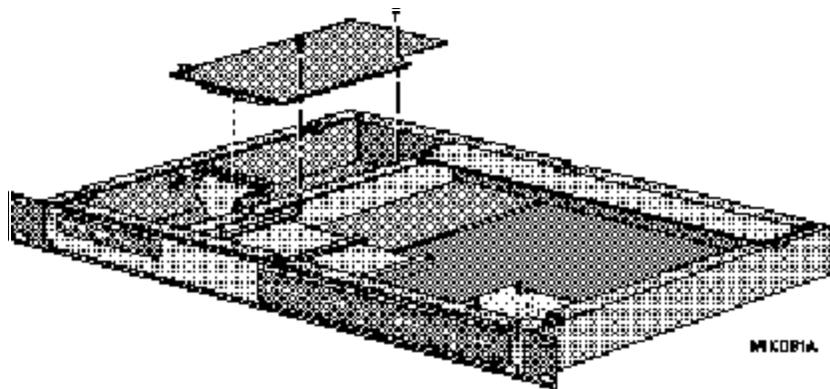

Figure 7. Install the ACG Card
15. The corner of the ACG Card, with the black rubber bumper, will rest on the "L" bracket installed on the side of the chassis in Step 5. Insert two phillips screws through the ACG Card into the Option Card bracket and tighten. (See Figure 7.)